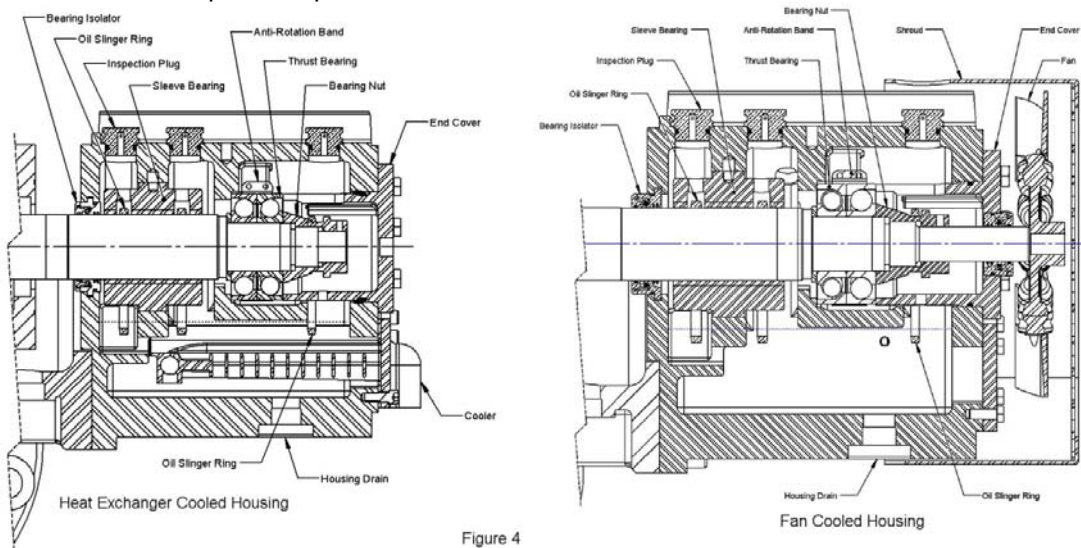

Figure 4
- **Ring oil lubricated:** This system utilizes slinger rings running in, or near the bearings to pick oil up from the bearing housing oil reservoir and deposit it on the shaft. The oil then is transferred to the bearings by means of channeling and/or catch-drip type devices. If it is required, heat exchangers or fans can be added to these type units to maintain acceptable lube oil temperatures. See Figures 4 & 5.